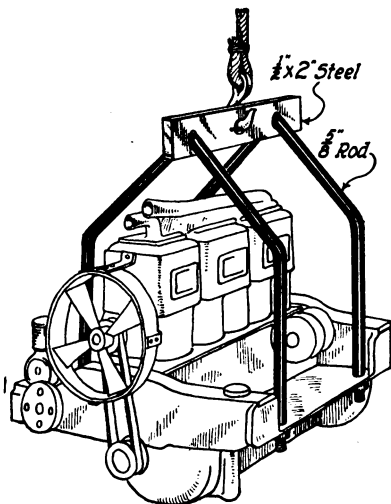

Fig. 9. Sling for Engine Which Saves Much Time in Attaching
*Form of Cradle.* Many times, even with a suitable crane or hoist, it is necessary to make a cradle for the motor because of difficulty in attaching the chains or ropes to it, difficulty of balancing it safely, or for other reasons. A cradle for a six-cylinder motor is seen in Fig. 9. This is, of course, applicable only to this particular motor, but in a shop handling one car continuously, there is enough saving to warrant making such an outfit. The four bars are made from two pieces of